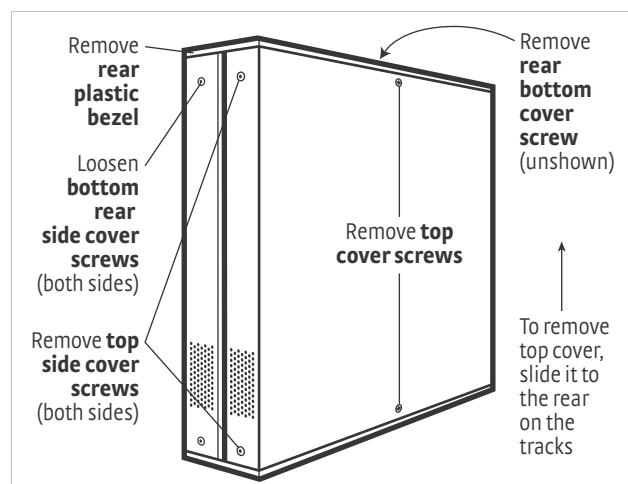

FIGURE 8-10 Cover removal
2. Stand the unit on its face. Use a 5/64 in hex driver to remove the four screws on both sides of the top cover. Loosen the two rear bottom screws (FIGURE 8-10).
3. Use a small Phillips screwdriver to remove the two top cover screws and one rear bottom screw (FIGURE 8-10).